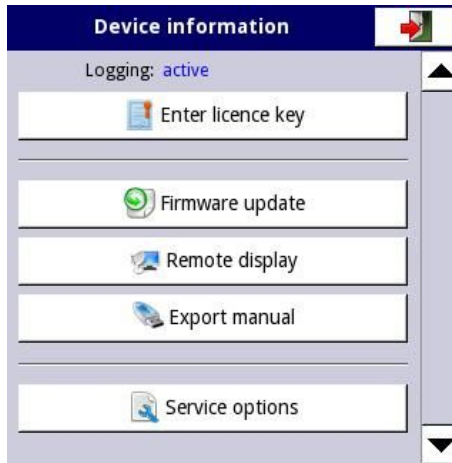

Fig. 7.27. Device information menu
Enter licence key button (see Fig. 7.27) allows the user to enter a licence key purchased from the manufacturer (or supplier), enabling additional software options which enhance the functionality of the device. After entering and accepting the licence key the device automatically starts up with new software options (if the licence key for data logging is entered the text under the **Licences** heading appears as: **Logging**: the period of validity – see Fig. 7.27).
Firmware update button (see Fig. 7.27) allows the user to update the device software. To perform the update:
- plug in the flash drive (some high capacity Pendrives are not supported, best choice is pendrive with 2GB capacity) - start the update process by pressing the **Firmware update** button (see Fig. 7.27).
The **Service options** button (see **Fig. 7.27**) allows the user to delete current configuration and restore default settings (excepting Access options – see **Chapter 7.17.**). It is done by passing the password, which is “**RENEW CONFIGURATION**”.